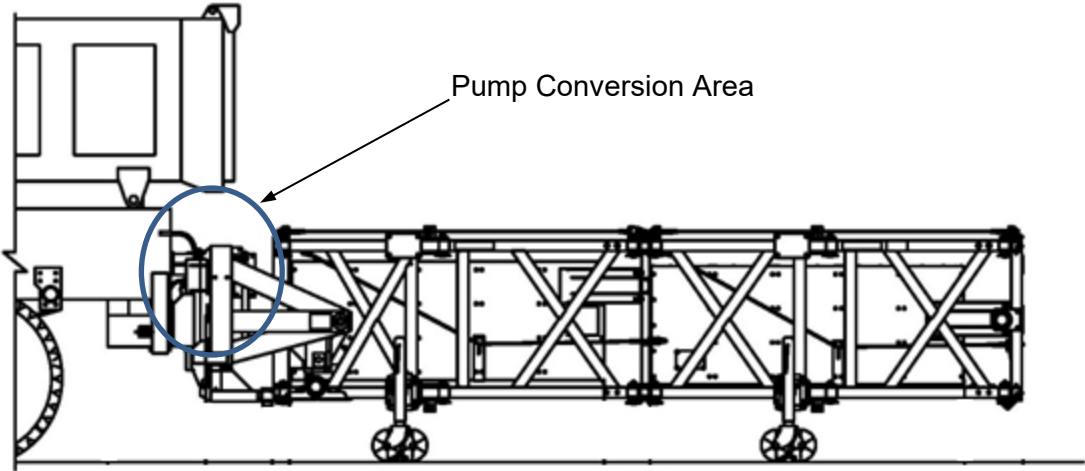

Figure 1
- 3) Mount Pump Adapter Bracket to SS90™HD Pump mounting holes (See Figure 1).